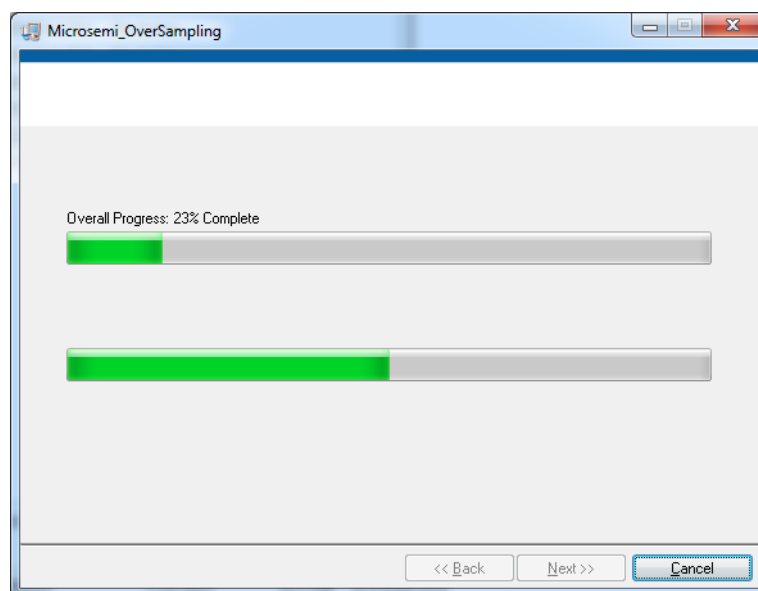

Figure 13 • GUI Setup Progress Bar
5. A progress bar appears is displayed that shows the progress of installation as shown in Figure 13. Wait until you get a message **Installation Complete**. It may take few minutes.